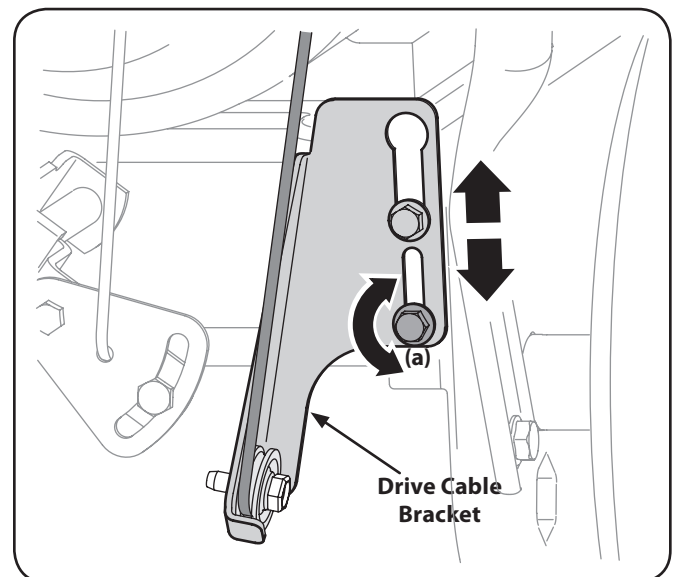

Figure 6-5
2. Loosen the lower hex screw (a) on the drive cable bracket. See Figure 6-5.